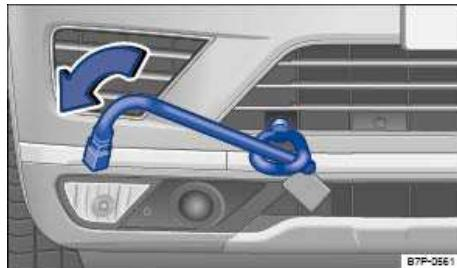

Fig. 352 In right front bumper: Screwing in towing eye.
- Screw the towing eye **counterclockwise** into the threaded hole as far as it will go ⇒ fig. 352 (arrow) ⇒ ①. Use the lug wrench to turn and tighten the towing eye.